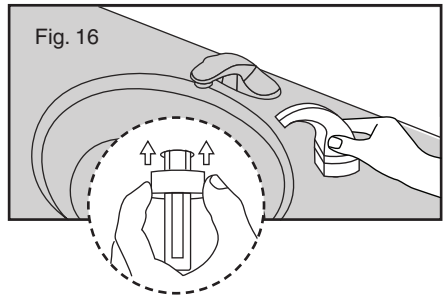

Fig. 16
17. Remove the adhesive liner from the plastic support ring and slide it over the support shaft and push it up until it sticks to the underside of the countertop while holding the threaded soap discharge shaft and spacer in correct alignment with the sink. (see figure 16)